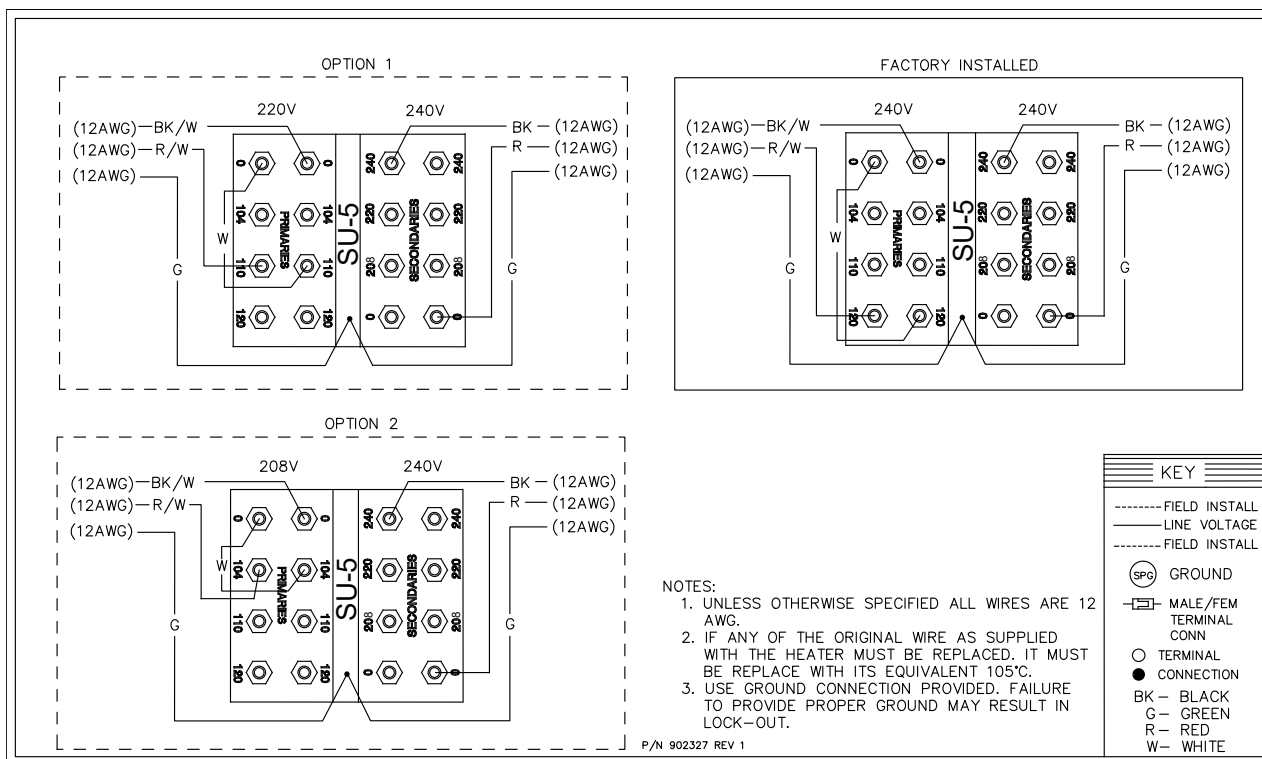

Figure 22. Wiring Diagram Transformer 240V (Factory Installed) and 208V/220V (Field Wiring)
**NOTE:** Multi-voltage transformer is an optional feature. When unit is order with this configuration, see Figure 22 for 208V or 220V field wiring configurations.